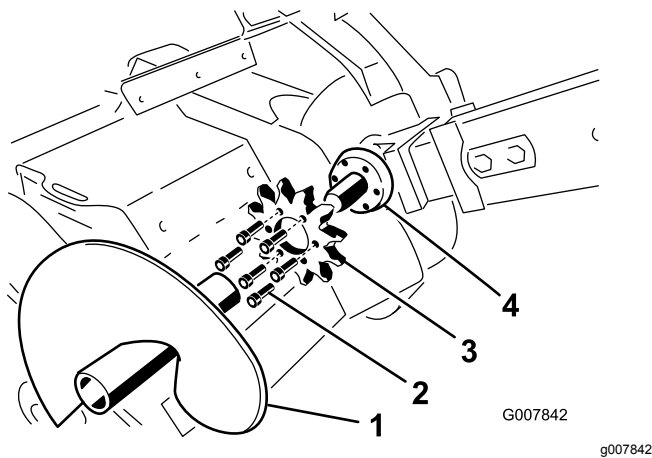

Figure 63
- Remove the spoils auger (Figure 63).
- Remove the 6 bolts securing the drive sprocket (Figure 63).
- Remove and discard the drive sprocket (Figure 63).
- Clean the sprocket mounting surface on the trencher (Figure 63).
- Slide the new sprocket onto the shaft (Figure 63).
- Thread the 6 bolts into the sprocket finger tight (Figure 63).